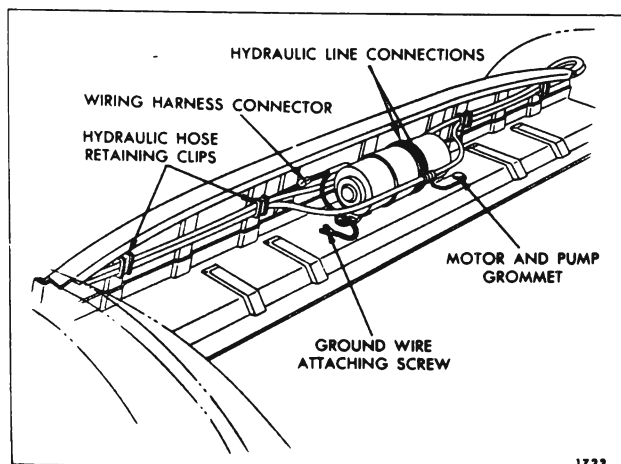
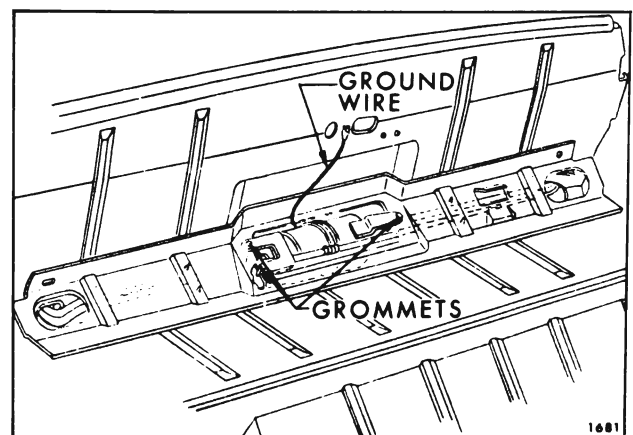

Fig. 13-59 — Motor And Pump Assembly
Fig. 13-60 — Hydro-Lectric Motor And Pump Assembly
The high pressure hydro-lectric unit used in the convertible bodies, consists of a 12 volt reversible type motor, a rotor-type pump, two hydraulic lift cylinders, and an upper and lower hydraulic hose assembly. On the "A" Series the unit is installed in the body directly behind rear seat back. (Fig. 13-59). On the "B, C & F" Series the unit is installed in the body beneath the rear seat back panel (Fig. 13-60).
6. Remove clips securing wire harness and hydraulic hose to rear seat back panel. (Figs. 13-59 and 13-60).
7. a. On "A" Body Styles disconnect motor leads from wire harness and ground attaching screws (Fig. 13-59).
- b. On "B, C & F" Body Styles at rear seat back panel, disconnect wiring harness and remove ground wire attaching screw (Fig. 13-60).
8. To facilitate removal, apply a rubber lubricant to pump attaching grommets; then carefully disengage grommets from floor pan. (Figs. 13-60 and 13-59).
11. Disconnect hydraulic lines and cap open fittings to prevent leakage of fluid. (Figs. 13-59 and 13-60). Use a cloth to absorb any leaking fluid, then remove unit from rear compartment.
- a. Check connection of motor ground wire to body metal. (See Figs. 13-59 and 13-60).